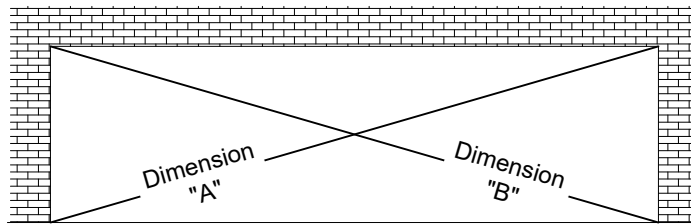

Fig. 1
- B. Measure diagonally from the corners of the opening (Rough Opening). See **Fig. 1**.
- B. **Note:** The trim stop notch should be confirmed with field conditions to ensure the notch will be covered by the jamb. See **Fig. 1**.